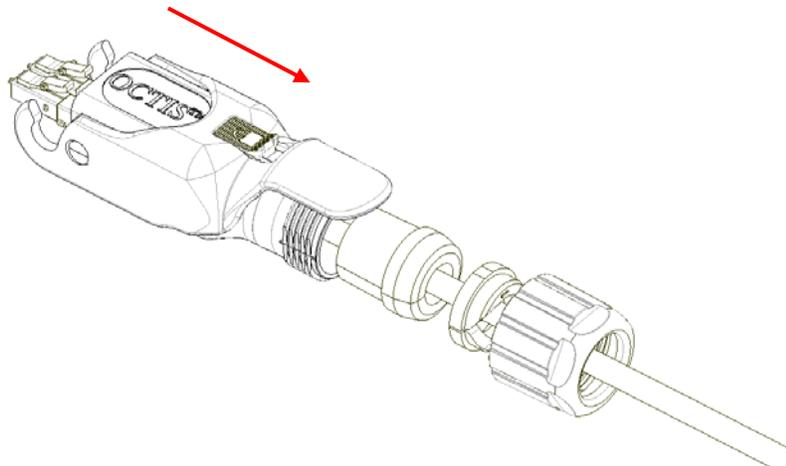

Figure 7
2. Insert the housing subset kit from the front end of LC Duplex cable (Fig 7)